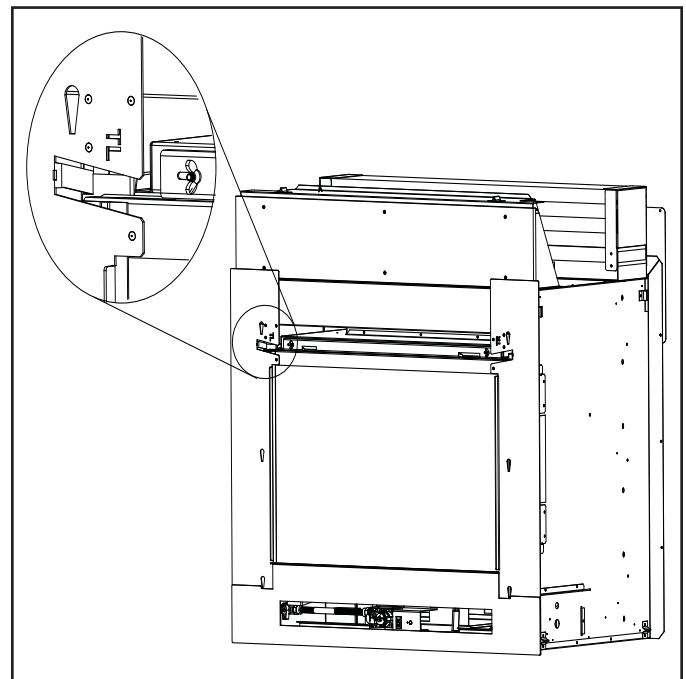

Figure 2. Inner Door Installation
1. Bend the (4) handbend J-hooks on the back of the inner door to 90° perpendicular to allow for easy hanging of the door on the unit. Adjust handbend J-hooks if needed. See Figure 2 for reference.
2. Attach the inner door to the appliance, mount the J-hooks in the appliance slots. See Figure 2.